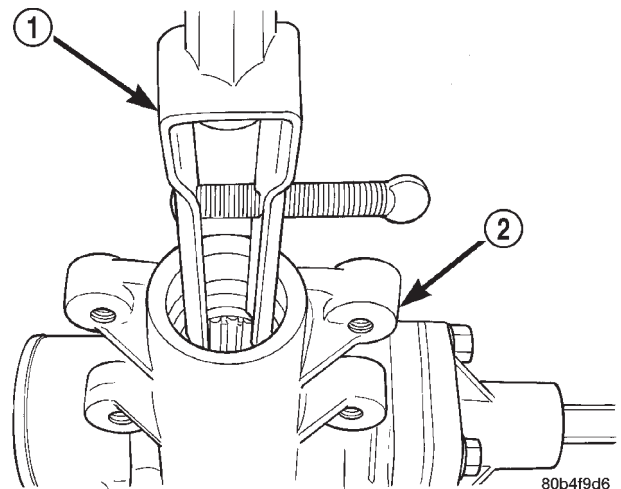

Fig. 27 Oil Seal Removal
(15) Remove oil seal from the housing with a Puller 7794-A and Slide Hammer C-637 (Fig. 27).